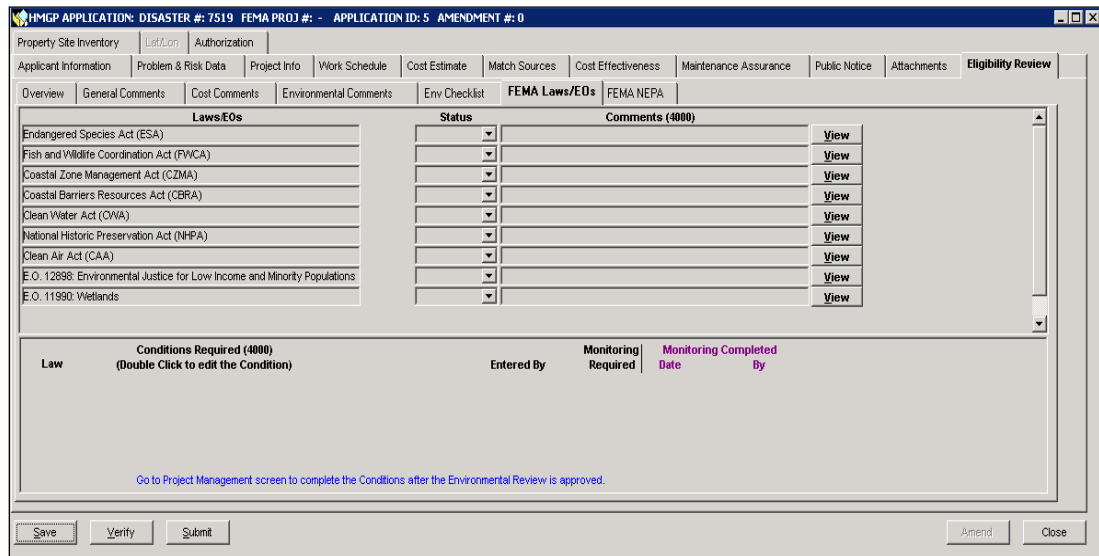

Figure 6-82: Mitigation > Projects > Application Development > Eligibility Review > FEMA Laws/EOs Sub-tab
12. Click the **FEMA Laws/EOs** sub-tab. Read-only Status and Comments information are displayed (Figure 6-82).